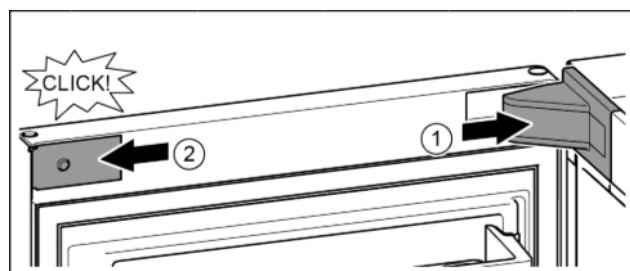

Fig. 16
- Put the mounting block cover on and click into place. If necessary push apart carefully. Fig. 16 (1)
- Position the cover plate on the side and click into place. Fig. 16 (2)